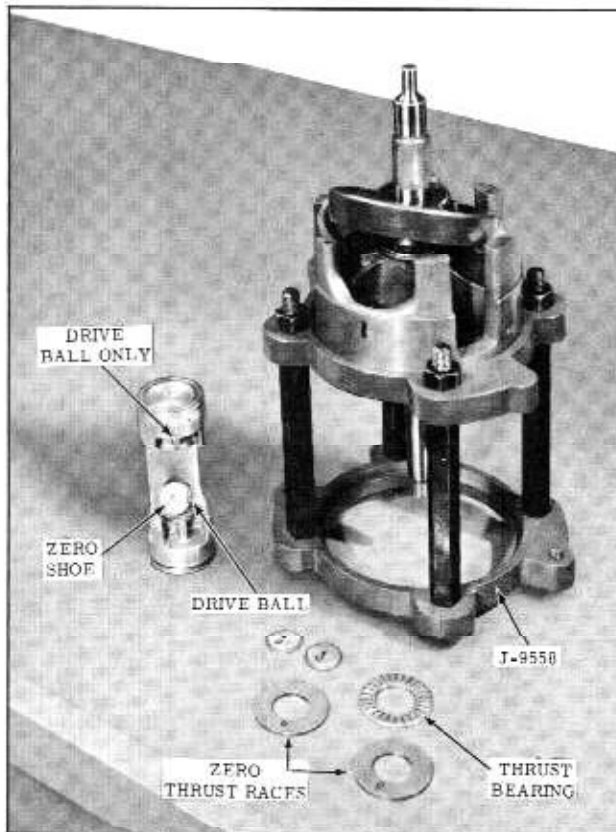

Fig. 14-50 Assembling Parts for Clearance Check
2. Position a zero thrust race, a thrust bearing and another zero thrust race over the front and rear ends of the compressor shaft. Retain bearings and thrust washers with clean petrolatum. Install shaft into front cylinder, threaded end of shaft down. (Fig. 14-50)